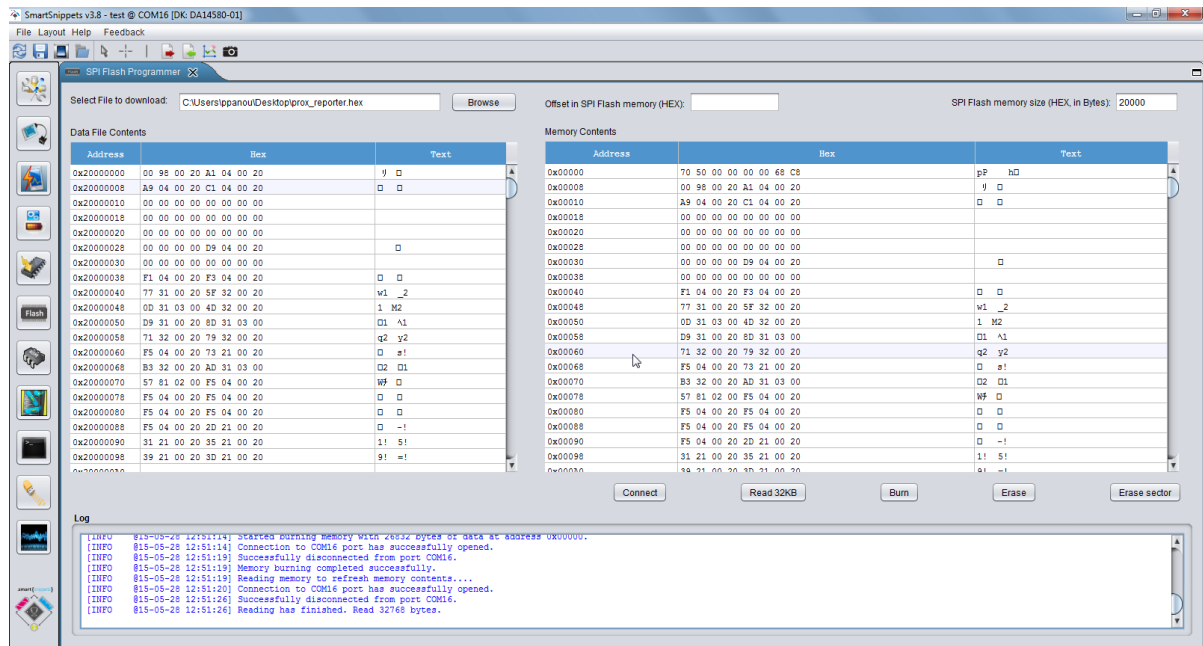

Figure 3: SPI Flash Programmer
3. Open the “SPI Flash Programmer” tool (Figure 3), select the application image file and burn it at SPI flash memory offset 0. When asked whether to make the SPI Flash memory bootable, there are two options to consider depending on the chip version and bootloader configuration: